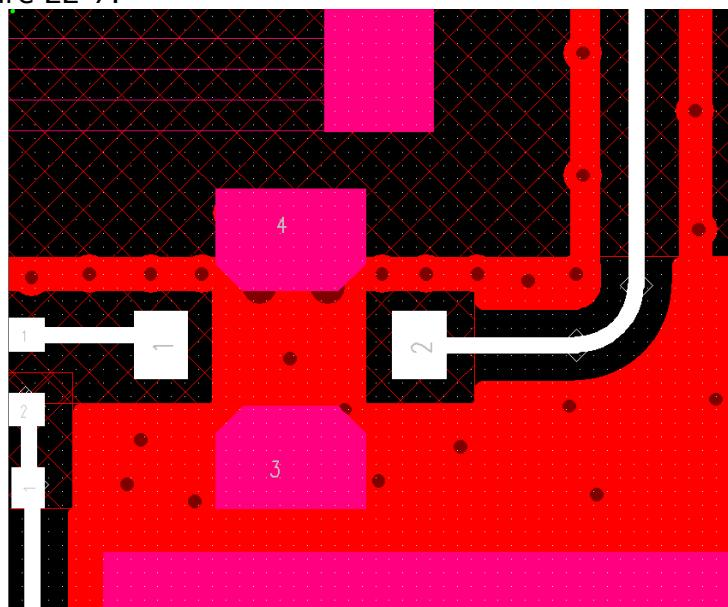

Figure 22-7
- The longer the length of antenna path is in layout, the larger the energy loss, so in design, the path of the antenna is as short as possible and cannot have branches and vias, shown as Figure 22-7.
- When the antenna needs to swerve, please trace with arc but not at corner, shown as Figure 22-7.